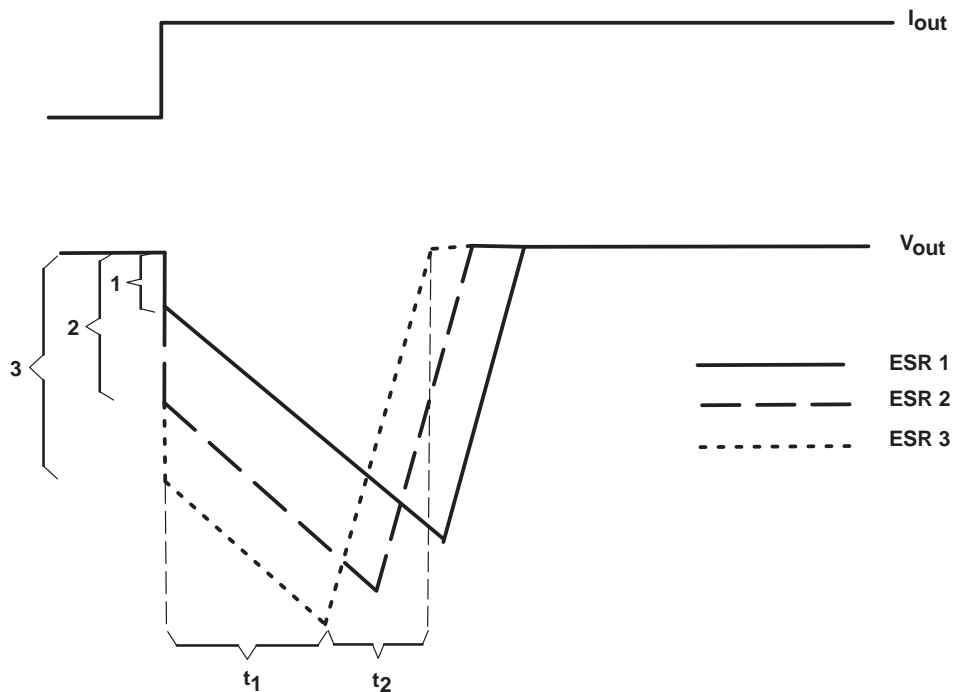

Figure 23. Correlation of Different ESRs and Their Influence to the Regulation of  $V_{out}$  at a Load Step From Low-to-High Output Current
- The LDO is not able to supply the sudden current need due to its response time ( $t_1$  in Figure 23). Therefore, capacitor  $C_{out}$  provides the current for the new load condition (dashed arrow).  $C_{out}$  now acts like a battery with an internal resistance, ESR. Depending on the current demand at the output, a voltage drop will occur at  $R_{ESR}$ . This voltage is shown as  $V_{ESR}$  in Figure 22.
- When  $C_{out}$  is conducting current to the load, initial voltage at the load will be  $V_{out} = V_{C_{out}} - V_{ESR}$ . Due to the discharge of  $C_{out}$ , the output voltage  $V_{out}$  drops continuously until the response time  $t_1$  of the LDO is reached and the LDO resumes supplying the load. From this point, the output voltage starts rising again until it reaches the regulated voltage. This period is shown as  $t_2$  in Figure 23.